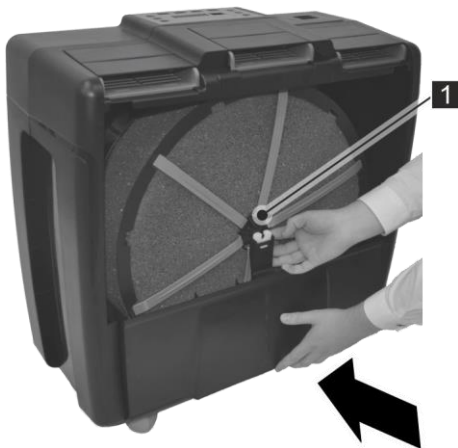

Fig. 18: Fixing the filter drum in place
3. ➔ Press the water container in place and in doing so, fix the hub of the water drum in place with the mounting of the tank (Fig. 18/1)